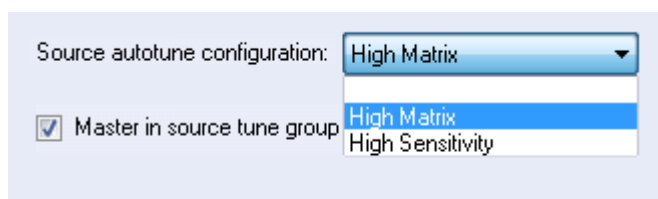

Figure 4-15. Source autotune settings
7. Select the **Source autotune configuration** from the drop-down menu, see Figure 4-15.